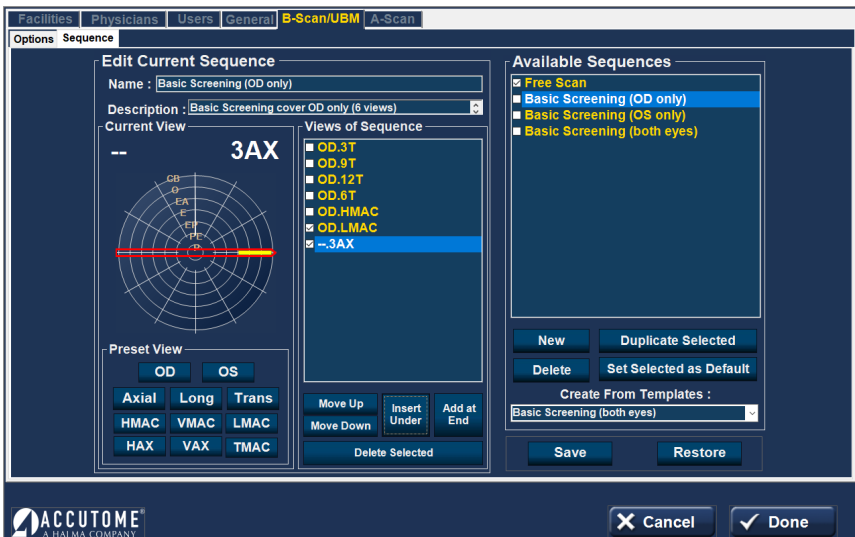

Figure 7.5 - Setup: B-Scan/UBM – Sequence – Change Probe Orientation
- When you arrive at the appropriate position for the probe in the newly added sequence scan, release the position indicator. The new position will be reflected in the label for the new sequence scan as shown in the figure 7.5. The indicator stopped at 3:00, and the label for the scan was changed from OD.Scan to OD.3AX.
A copy of the sequence will be displayed in the list of Available Sequences with “[1]” beside the name, as shown in figure 7.5. You may then change any information for the new sequence, as necessary. If you make more than one copy, the number will increase with each copy.